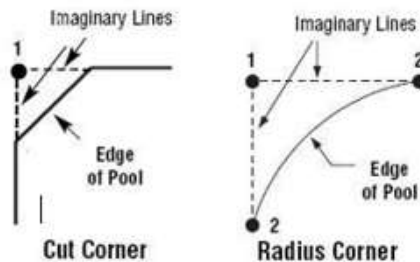

Figure 4
**Measure the diagonals from the squared corners.** If the corners of your pool are radius (round) or cut-off (diagonal), be sure to measure to the imaginary square corners. Refer to the diagrams (figure 4) for instructions on measuring to squared corners: